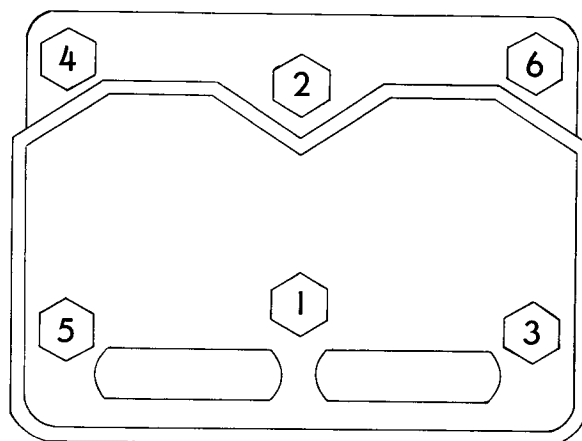

Fig. 3-32. Sequence for tightening head capscrews
4. Tighten in sequence shown in Fig. 3-32 in 150 foot-pound steps with torque wrench until all capscrews or stud nuts have been tightened to 430/450 foot-pounds.